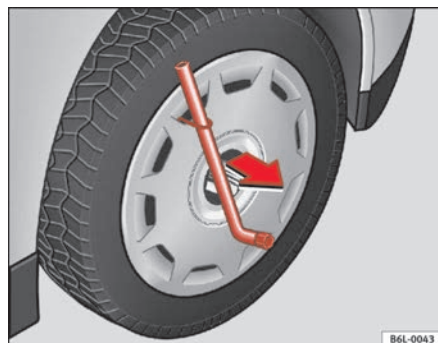

Fig. 125 Remove the complete hub cap
- Remove the wheel cover using the wire hook ⇒ fig. 125.